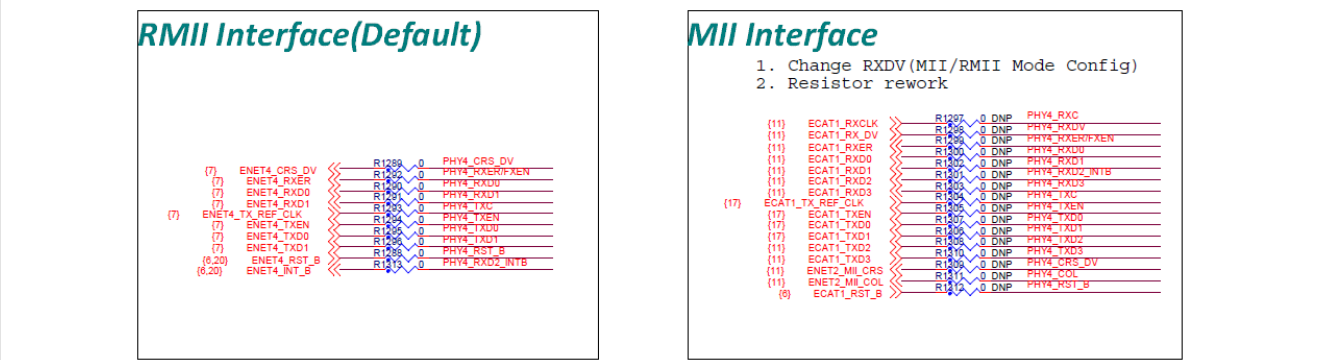

Figure 14. Resistor rework to support MII using ENET4
3. To use the PHY4 in MII mode, resistor rework is required as shown in Figure 14.)